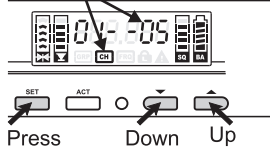

Fig. 12
- (1) Press the 'SET' 4 button until both GRP 20 cursor and a group number start blinking to denote it is ready to accept parameter change.
- (2) During blinking, press ▼ 7 or ▲ 8 button to select one of the factory preset groups.
## (B) CH: CHANNEL Setting. Fig. 12